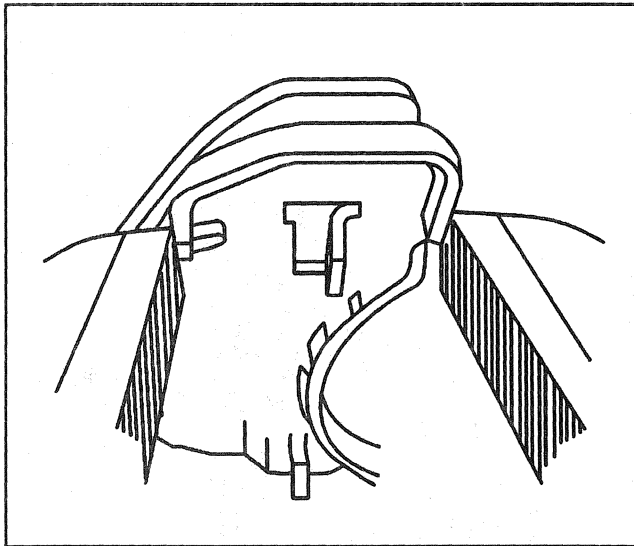

Figure 9—Crimping Outer Brake Pad
Install or Connect (Figures 9 through 12)
2. Place new pad in a vise (Figure 9).